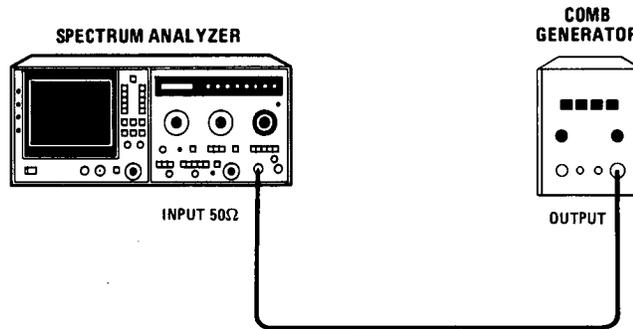

Figure 4-10. Noise Sidebands Test Setup
2. Connect comb generator output to spectrum analyzer INPUT as shown in Figure 4-10. Set comb generator for 100 MHz comb and maximum output amplitude.